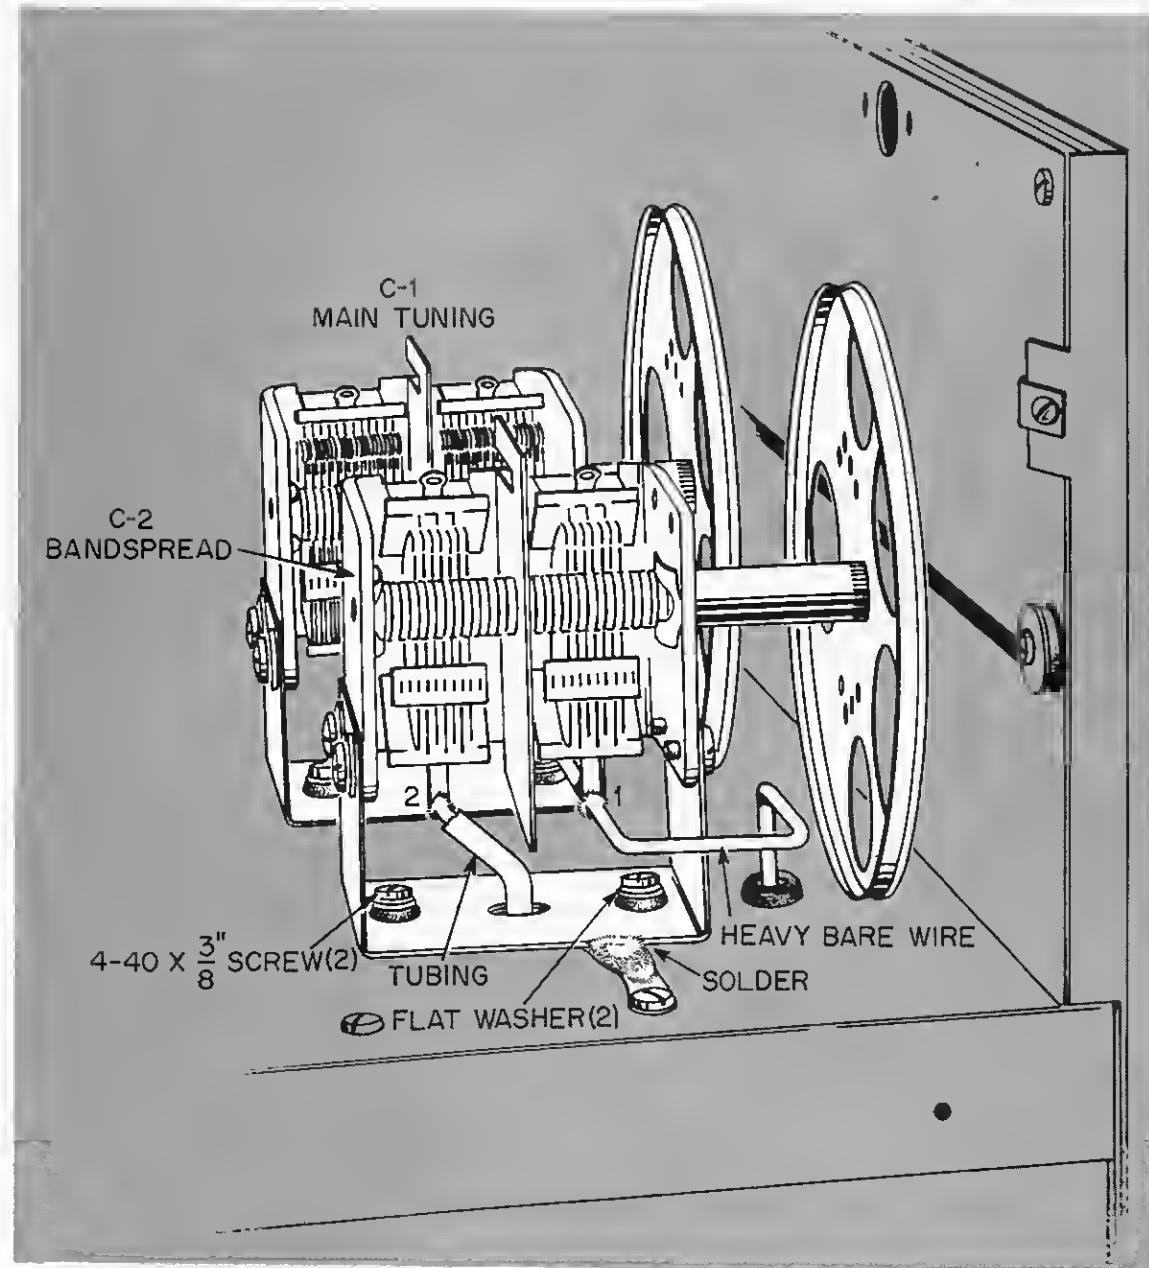

FIGURE 16
- ✓ C-1 assembly (variable capacitor with **largest number of plates** and shortest shaft). Mount to the chassis as shown in Figure 16. Fasten with two 4-40 x $\frac{3}{8}$ " screws, two flat metal washers, two lockwashers and two nuts. Place the flat washers over the screws. Insert the screws through the grommets in the bracket. Loosely fasten to the chassis with a lockwasher and nut. Position the braided shield so it crosses the large hole in the center of the bracket. Tighten the mounting nuts. Do not overtighten.
SEE FIGURE 16.